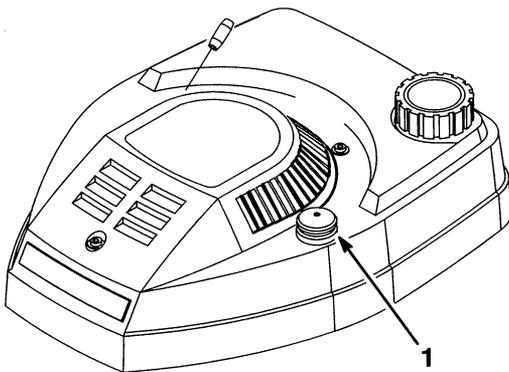

Figure 12
2. Push primer three (3) times (Fig. 12). Wait about two (2) seconds between each push.